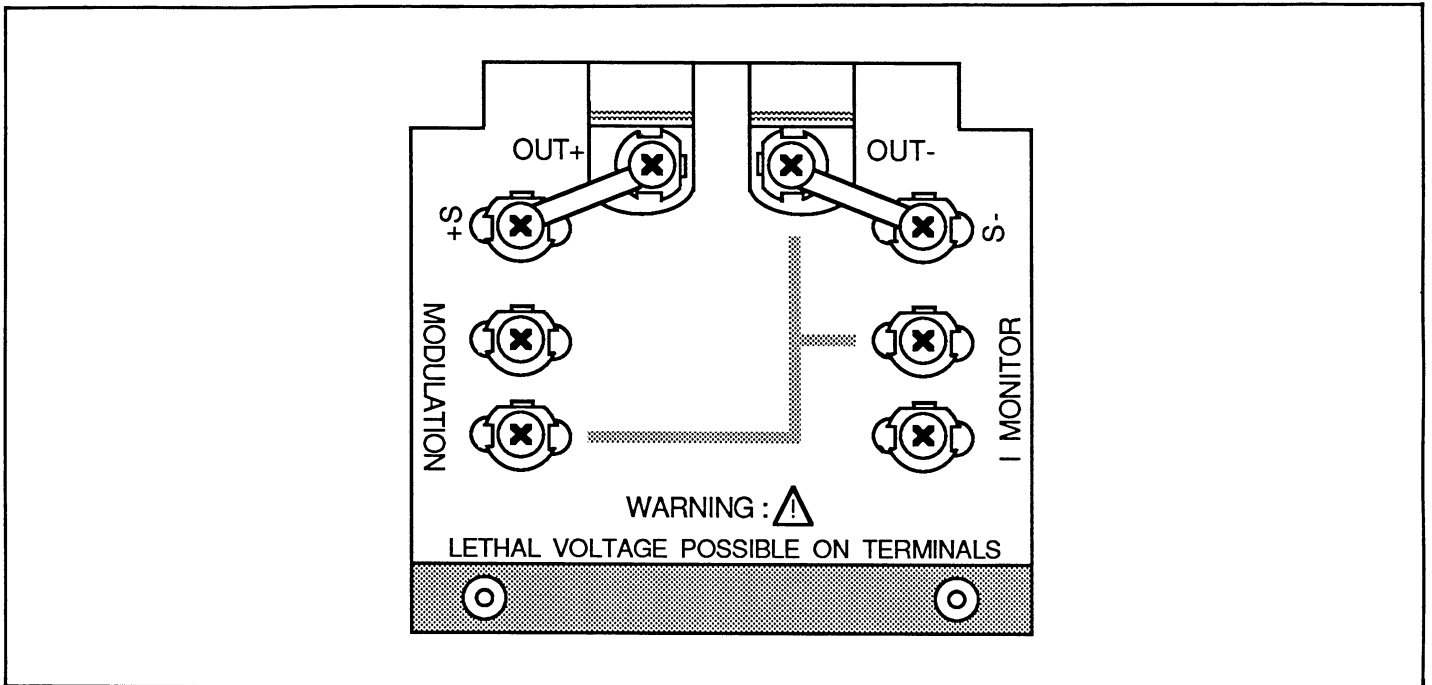

Figure 3-4. Quick Disconnect Board
Instead of the more common terminals used on other sources for output connections, the Model 228 output connector, along with the sense, modulation and current monitor terminals, are located on the quick disconnect board. This board fits through the rear panel into the Model 228 mainframe. The output, sense, current monitor and external modulation cables are connected to the terminals on the board of the Model 228. The card is plugged into the appropriate slot in the rear panel. When the card is removed from the mainframe, the output, sense, current monitor and external modulation terminals are disconnected from the mainframe connections. As a result, the user should never have to come in contact with a live output. Figure 3-4 shows the quick disconnect board and the location of each terminal.
To configure the quick disconnect board for local sensing, install the two shorting links as shown in Figure 3-4. The links connect the sense (S) terminals directly to the output (OUT) terminals. The load can then be connected to the two output (OUT) terminals.